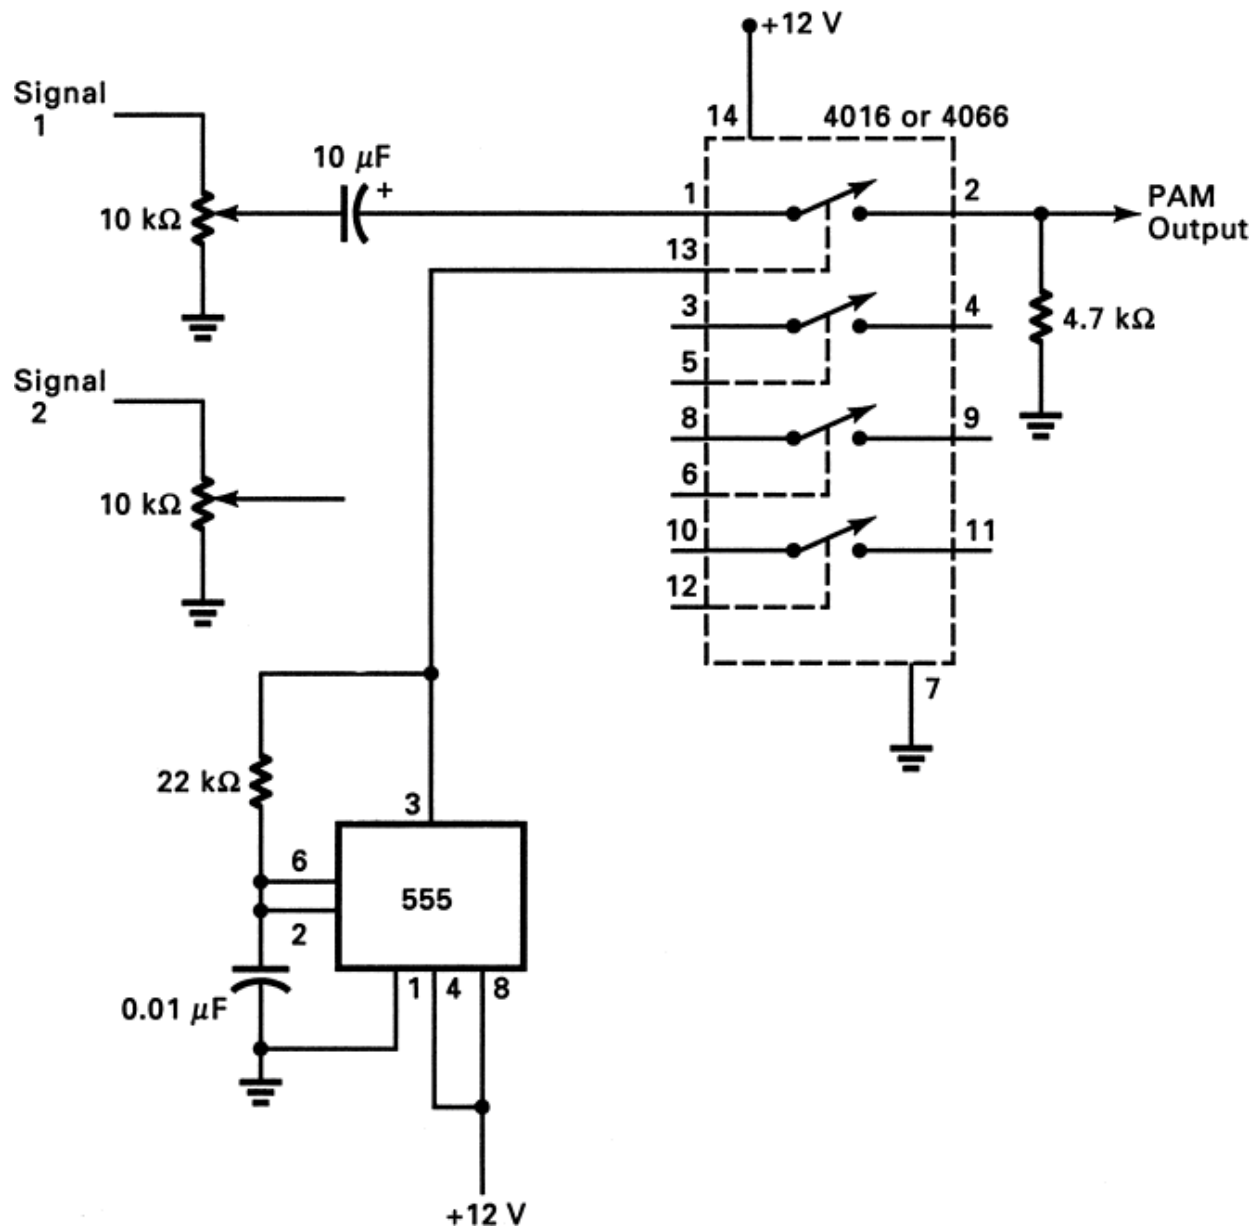

Fig. 11-1 PAM modulator.
1. Construct the circuit shown in Fig. 11-1. The 555 IC is used as an astable multivibrator to generate a square wave that will operate the CMOS switch. The resistor and capacitor associated with the 555 sets the 555's oscillating frequency. The 4016 or 4066 IC contains four CMOS switches, and you will use one of them as a gate to produce a PAM modulator circuit. Your signal source can be a function generator or any other source of a sine-wave intelligence signal. Apply the sine wave to the signal 1 input. The 10-k Ω pot will be used to adjust the signal amplitude. The output is taken from across the 4.8-k Ω resistor at the switch output. Check to be sure that each integrated circuit is connected to +12 V and ground before beginning.